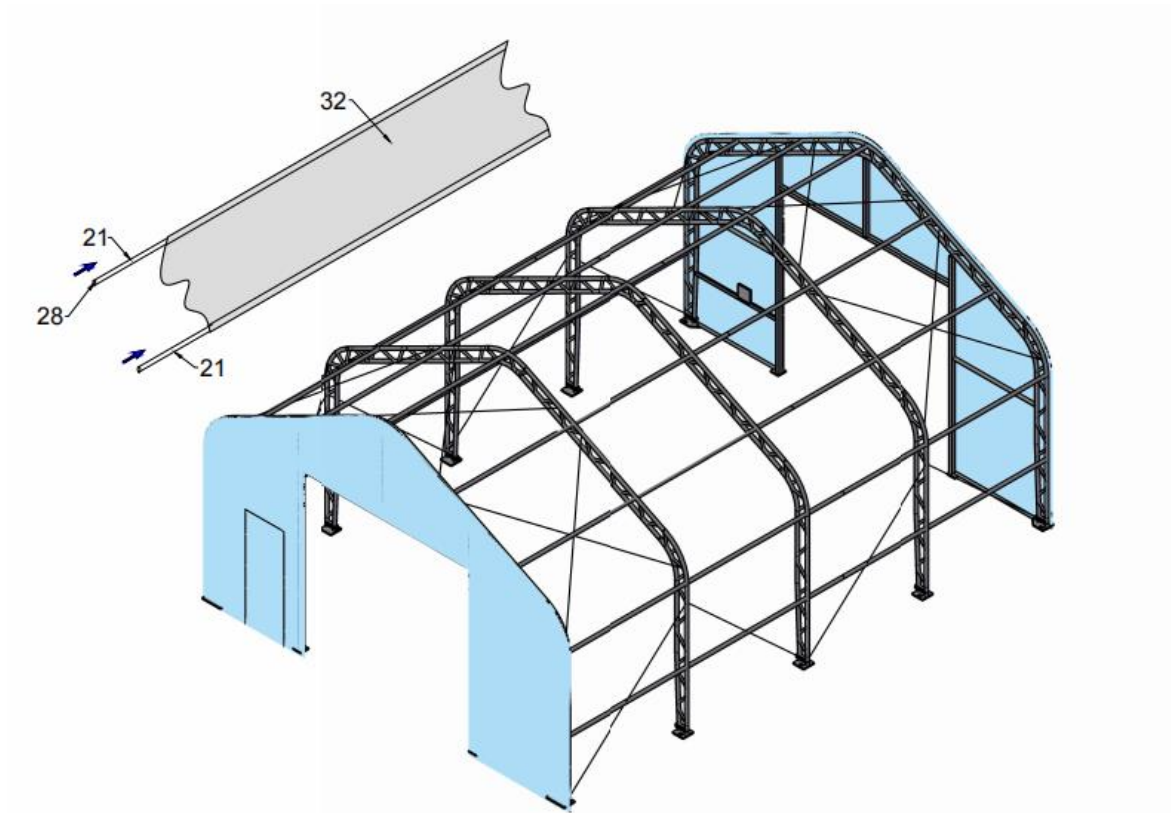

Figure 10
3. When roof cover is over top of frame assembly (see Figure 10&11), insert tensioning tubes (No.21) into pockets along both sides of roof cover, cut opening for nylon band for ratchet (No.26), find the nylon band over tube feed end into tie down to ratchet (No.6).